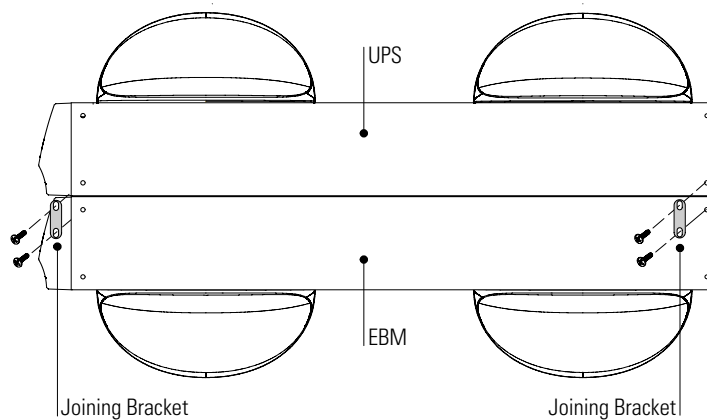

Figure 13. Installing the Joining Brackets (Top View with Pedestals)
10. Align each joining bracket with the adjacent corner screw holes and secure with the supplied screws (see Figure 13).